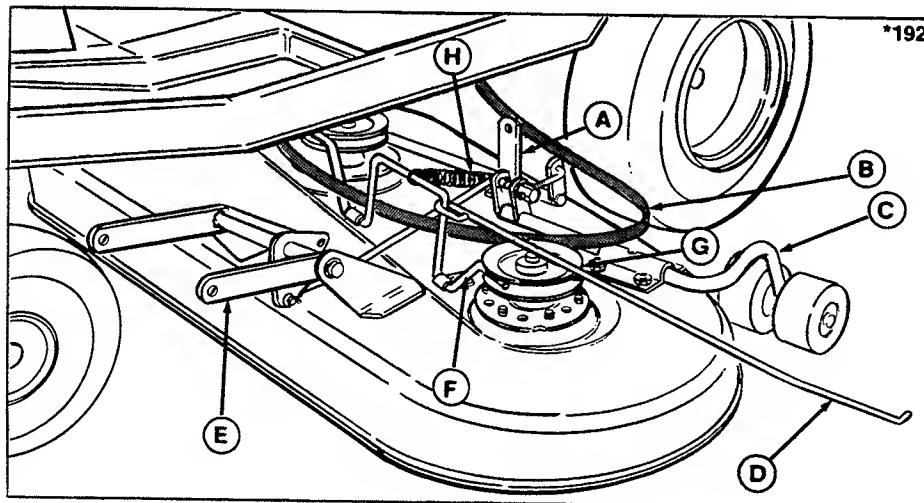
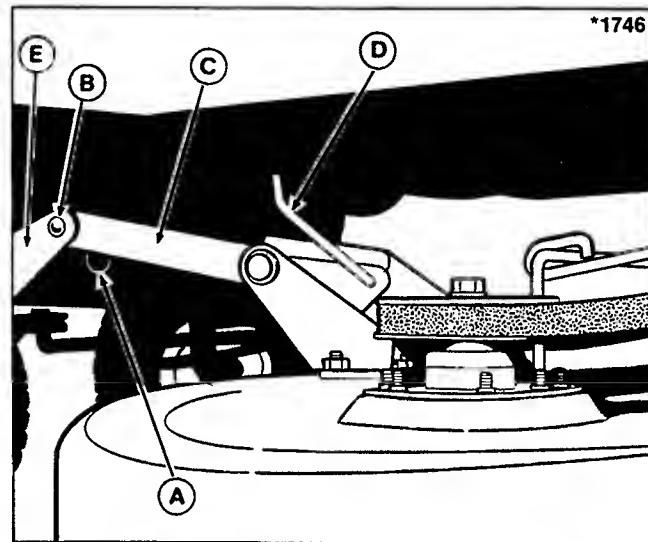
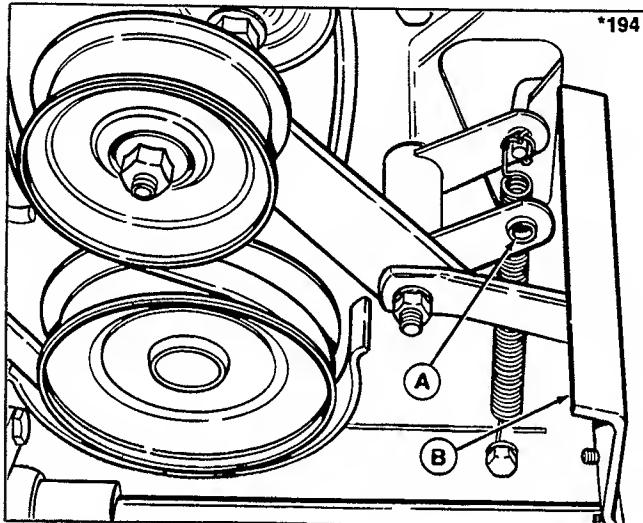
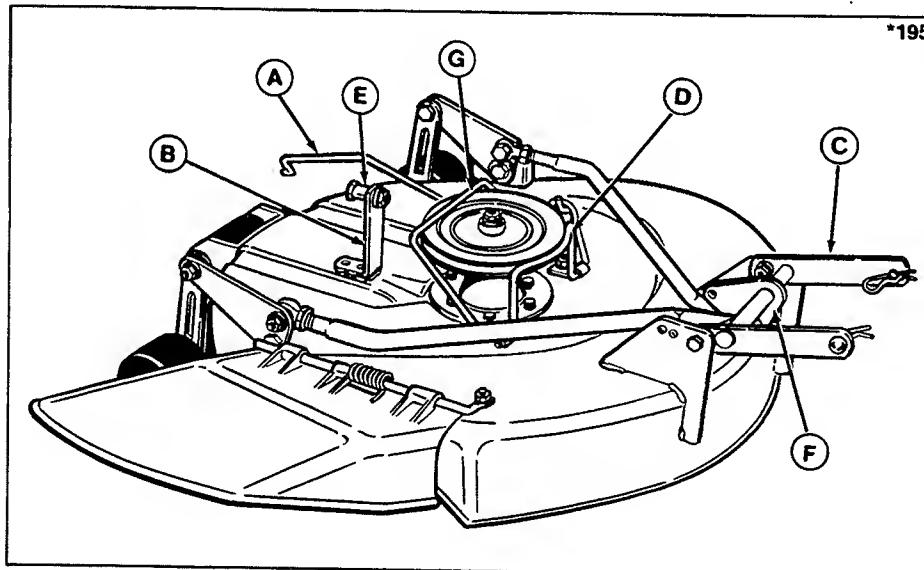

Figure 21. Installing 36" Mower
Figure 23. Mower Hitch
Figure 24. PTO Linkage
Figure 25. 26 " & 30" Mower
1. Place mower on left side of rider with mower brake rod (D, figure 21) pointing left. Slide mower partially under and place belt over mower bracket (A).
- Before installing mower, remove one end of brake spring (H, figure 21) and route loose belt under spring and brake rod (D). Reinstall spring.
- To align the mower hitch in rider hitch ears, push the hitch arms up and insert between ears (figure 23). (Pulling up on roller arm will help raise hitch.) Secure the mower hitch with pins and spring clips. Install pins from the outside. Be sure to install clip fully onto large ring.
7. Install the belt on the pulleys. Push the mower brake (F, figure 21) away from the pulleys to install belt. Loosen left arbor pulley belt stop if necessary. Make sure "V" side of belt rides in pulleys and there are no twists in belt.
8. Push the brake (F, figure 21) away from the pulleys so the brake rod (D) will clear the tire and left side plate. Insert the brake rod just inside the left side plate and insert the end of rod into PTO linkage shown in figure 24. (Engage the PTO lever to change position of the linkage.) Secure the brake rod with a spring clip (insert spring clip from rear).
9. Put height control lever in lowest position. To slip the lift rod (D, figure 23) into the hitch flange, the front of the mower must be raised a little. One method is to insert a wooden handle under the front of the mower deck and lift slightly (in a lever action). Insert end of lift rod into the hitch flange. Secure the rod with a washer and cotter pin.
1. Remove the spring clip from the brake rod and remove end of rod from the PTO linkage (figure 24). Push brake rod forward to clear left side plate and tire and swing rod out toward left side.
Loosen the hardware which secures the pulley belt guard (G, figure 25). The guard must be loose to install the belt.
5. Go around to the right side of the rider. Push the mower forward so rear roller will clear the tire then push mower under rider. Slip the belt over the mower bracket (B, figure 23).
6. Position the mower under the rider so that the mower bracket (B) is behind the rider upstop bracket.
7. Push the brake (D, figure 25) away from the pulley and slip the belt into the pulley. Be sure there are no twists in the belt. Tighten the belt guard (G, figure 25) hardware securely.
8. Lift up the front of the mower to align the hitch arms between the rider hitch ears (figure 23). Insert the two pins while holding mower up. Install the two spring clips in the pins.
9. Lift up the front of the mower and insert the lift rod (D, figure 23) into the hitch flange. One method to lift mower is to insert a wooden handle under the front edge of the mower deck and lift slightly (in a lever action). Place washer on lift rod then install spring clip.
10. Apply a little grease to the inside of the spacer (E, figure 25) and place the spacer on the bolt. Install the bolt thru the upstop bracket and mower bracket from the front. Be sure spacer is inside the upstop bracket. Install the locknut on the bolt. Tighten securely.
11. Push the brake (D, figure 25) away from the pulley to insert the brake rod (A) just inside the left side plate. Insert the rod into the PTO linkage shown in figure 24.
5. Loosen the hardware that secures the mower pulley belt guide (G, figure 25). Push the brake (D) away from the pulley and slip the belt out. Push the mower to one side and slip belt between mower bracket (B) and upstop bracket.
6. Remove the spring clip from the rear of the brake rod (A) and pull rod out of the linkage.
7. Remove the spring clip from the lift rod (D, figure 23). Remove the washer.
8. The mower must be lifted slightly to remove the lift rod from the mower flange (F, figure 25). One way is to insert a wood handle under edge of mower and lift up in a lever action. Pull lift rod out of the hole.
4. Loosen the idler pulley (K) mounting hardware. If pulley is removed, remember the position of the washers and belt stop (M).
5. On the 36 inch mower, loosen the left arbor pulley belt stop. On 26 inch or 30 inch mower, loosen the belt guide (G, figure 25).